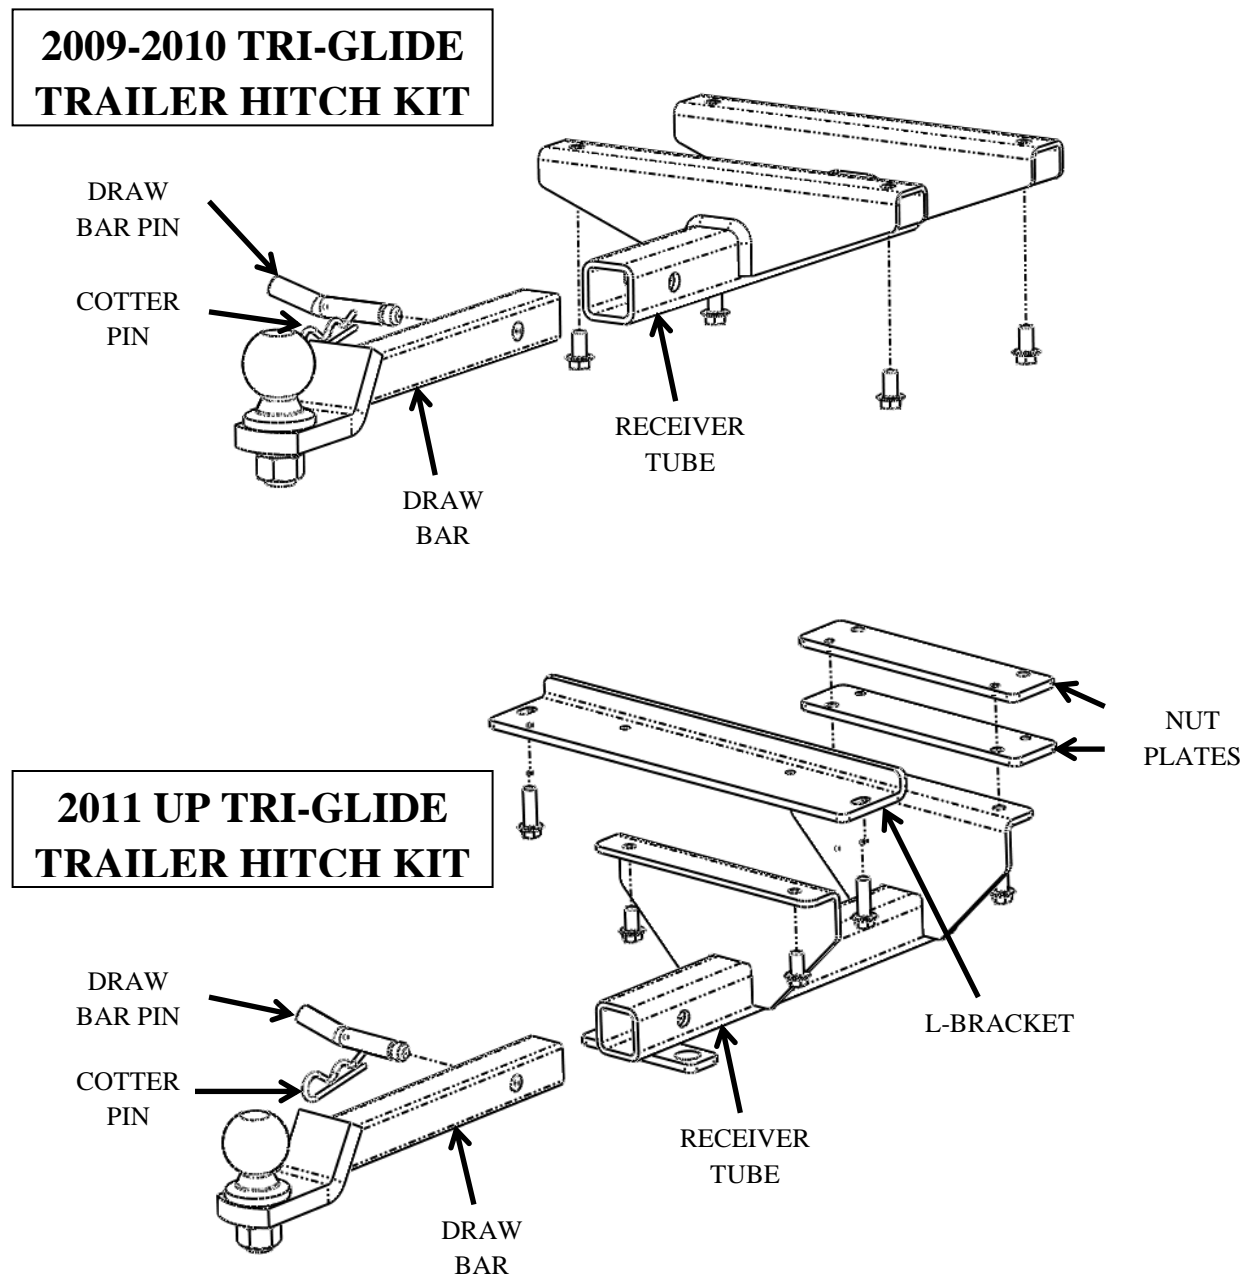

Figure 1: Trailer hitch year models and components.
There are two different trailer hitch kits for the Tri-Glide. Please be sure to order the correct kit based on the year model of the motorcycle receiving the trailer hitch. Use Figure 1 below to identify which kit belongs to which year models.
## **Installation Procedure 2009 -2010:** See Figure 1.
**Frames WITH Threaded Holes:** This installation does NOT require the L-Bracket or nut plates. See Figure 1 above.
**Frames WITH OUT Threaded Holes:** This installation **does** require the L-bracket and nut plates. See Figure 1 above.